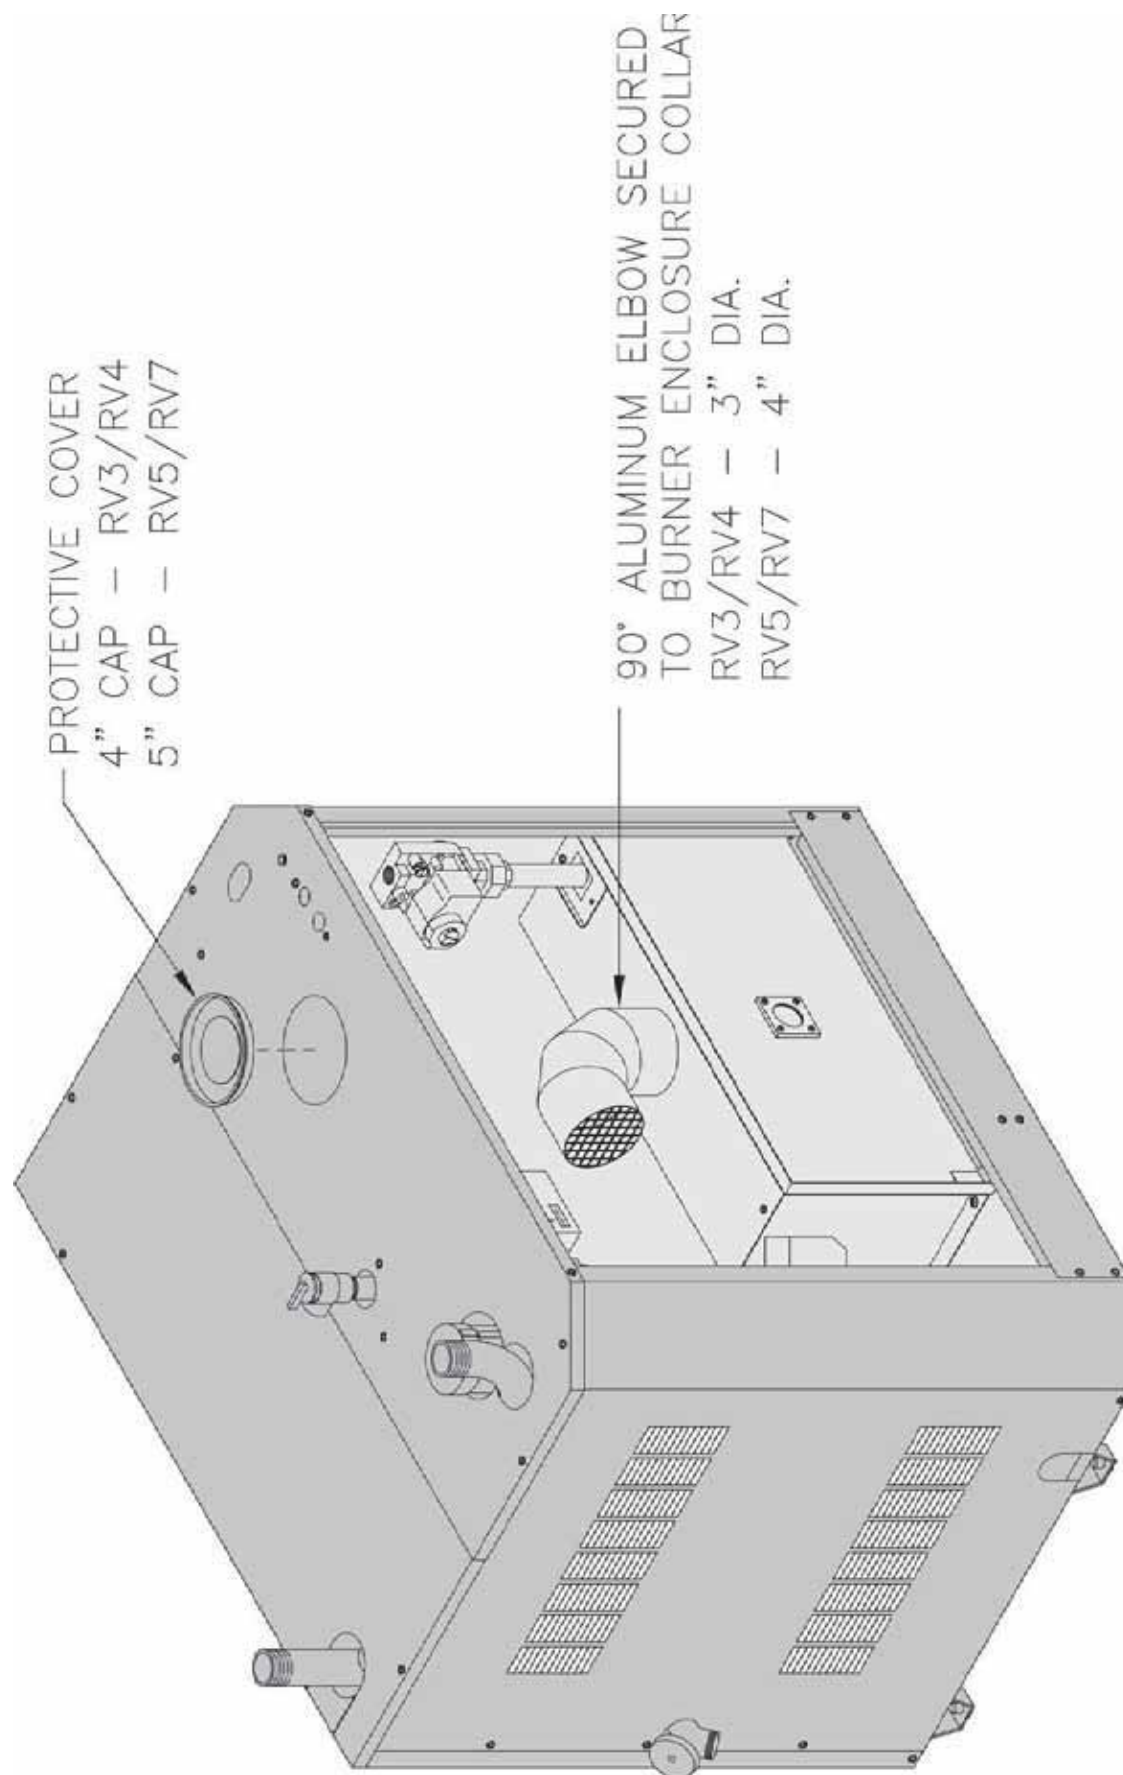

Figure 19: Indoor Air - Air Intake Terminal Installation
13. Install 90° aluminum elbow from kit onto collar of burner enclosure inside jacket assembly. See Figure 19.
15. Insert protective cover into air intake opening in jacket top panel. See Figure 19.